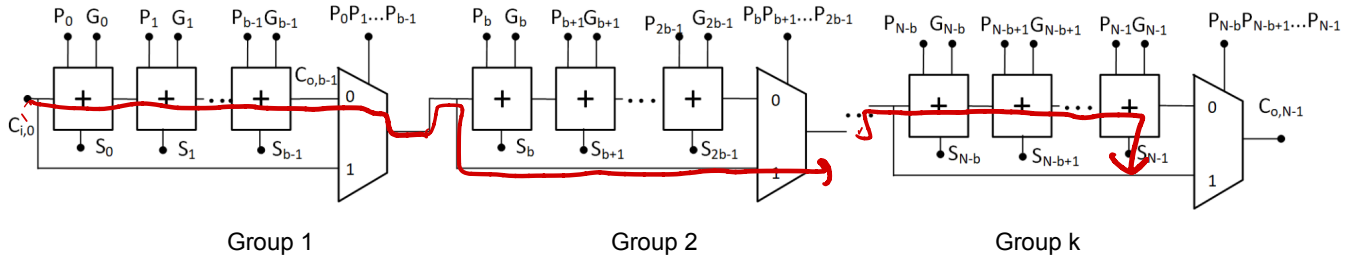

Figure 7
- b) (6 pts) Consider a carry-bypass (sometimes called 'carry-skip') adder, shown in Figure 7. Each full adder cell (labeled as a '+' box in the diagram) can be assumed to have one multiplexer delay from C_i to C_{i+1} and one multiplexer delay from C_i to S_i . You can assume that the sum and carry paths have been realized by the circuits from part a) and therefore have equal delays. For an N-bit adder divided into k uniform b-bit groups, find the optimal b that minimizes the overall delay from $C_{i,0}$ to S_{N-1} (in terms of N).